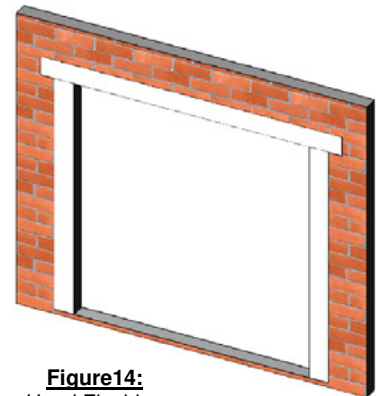

Figure14:
3. Finally, at the head, embed the flashing into the sealant on the mounting flange and fasten into place. The flashing paper should be cut sufficiently long enough to extend past the flashing paper at each jamb by at least 3 inches (Figure 14).